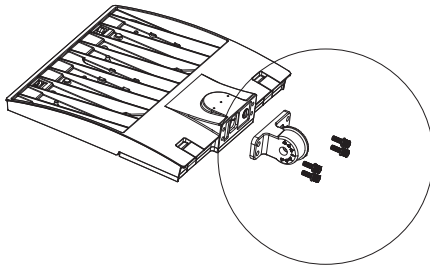

FIG. 1
1. Remove the bracket mounting screws on the fixture. (See Fig. 1 & 2)